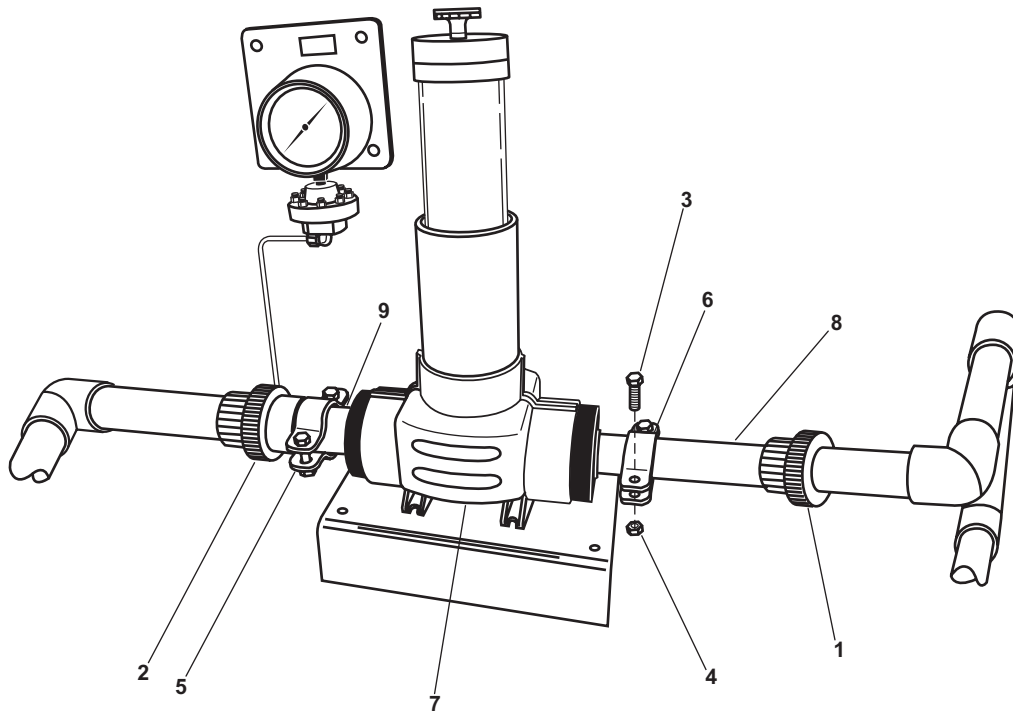

Figure 2. Chlorinator Replacement
4. Place a suitable drain pan under the chlorinator inlet coupling (figure 2, item 1).
5. Loosen the chlorinator inlet coupling (figure 2, item 1) and allow any effluent to drain into the suitable drain pan.
6. Place the suitable drain pan under the chlorinator outlet coupling (figure 2, item 2).
7. Loosen the chlorinator outlet coupling (figure 2, item 2) and allow any effluent to drain into the suitable drain pan.
8. Remove the four bolts (figure 2, item 3) and four nuts (figure 2, item 4) from the two chlorinator mounting clamps (figure 2, item 5).
9. Remove the two upper chlorinator mounting clamps (figure 2, item 6).
10. Remove the chlorinator (figure 2, item 7), the chlorinator inlet piping (figure 2, item 8), and the chlorinator outlet piping (figure 2, item 9) as an assembly.
11. Remove the chlorinator inlet piping (figure 2, item 8) and the chlorinator outlet piping (figure 2, item 9) from the chlorinator (figure 2, item 7). Retain the piping for later installation.
1. Apply antiseizing tape to the male threads of the chlorinator inlet piping (figure 2, item 8) and the chlorinator outlet piping (figure 2, item 9).
2. Install the chlorinator inlet piping (figure 2, item 8) and the chlorinator outlet piping (figure 2, item 9) in the chlorinator (figure 2, item 7).
3. Install the chlorinator (figure 2, item 7), the chlorinator inlet piping (figure 2, item 8), and the chlorinator outlet piping (figure 2, item 9) on the two lower chlorinator mounting clamps (figure 2, item 5).
4. Install the two upper chlorinator mounting clamps (figure 2, item 6) and secure them in place with the four bolts (figure 2, item 3) and four nuts (figure 2, item 4).
5. Connect the chlorinator inlet coupling (figure 2, item 1) and the chlorinator outlet coupling (figure 2, item 2).